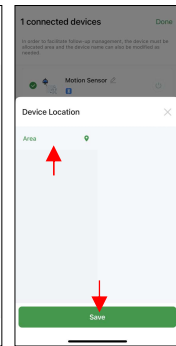

Figure 6
8. If your Project has multiple buildings or floors, you will be prompted to select the “Area” the sensor is installed in and press “Save”. *See Figure 6.*